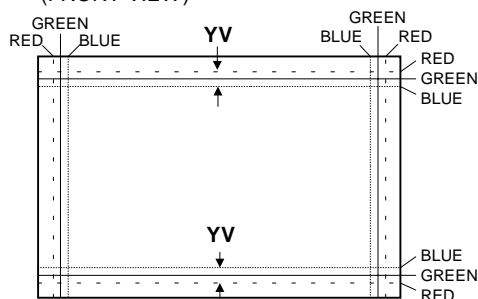

Fig. 4
2. Move the deflection yoke left to right to overlap the lines in the periphery, and match the Y_v . (See Fig. 4)